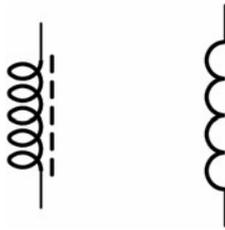

Fig. 11-7. Inductor.
If you wrap a wire around a ferrite core, it has a lot more inductance than a single wire in space. This would be an inductor as a component, as shown in Fig. 11-7. Inductance is measured in the *henry* (H), after the American scientist Joseph Henry who discovered a number of the phenomena that we call inductance. Inductors are often represented by the letter  $L$  in formulas and schematics. As in capacitors, we will normally work with microhenries ( $\mu\text{H}$ ) and millihenries (mH) instead of full henries.